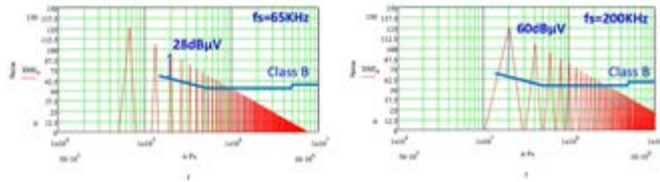

Figure 3: Simulated DM noise with frequency at 65KHz and 200KHz.
Based on the equations (1) through (3), the simulated DM noise spectrum is given in Fig. 3 for a 1.5KW CCM BTP-PFC with 230Vac input and 400V DC output, and the switching frequency of BTP-PFC are set at 65KHz and 200KHz respectively. The simulated DM noise spectrum results has the following properties: